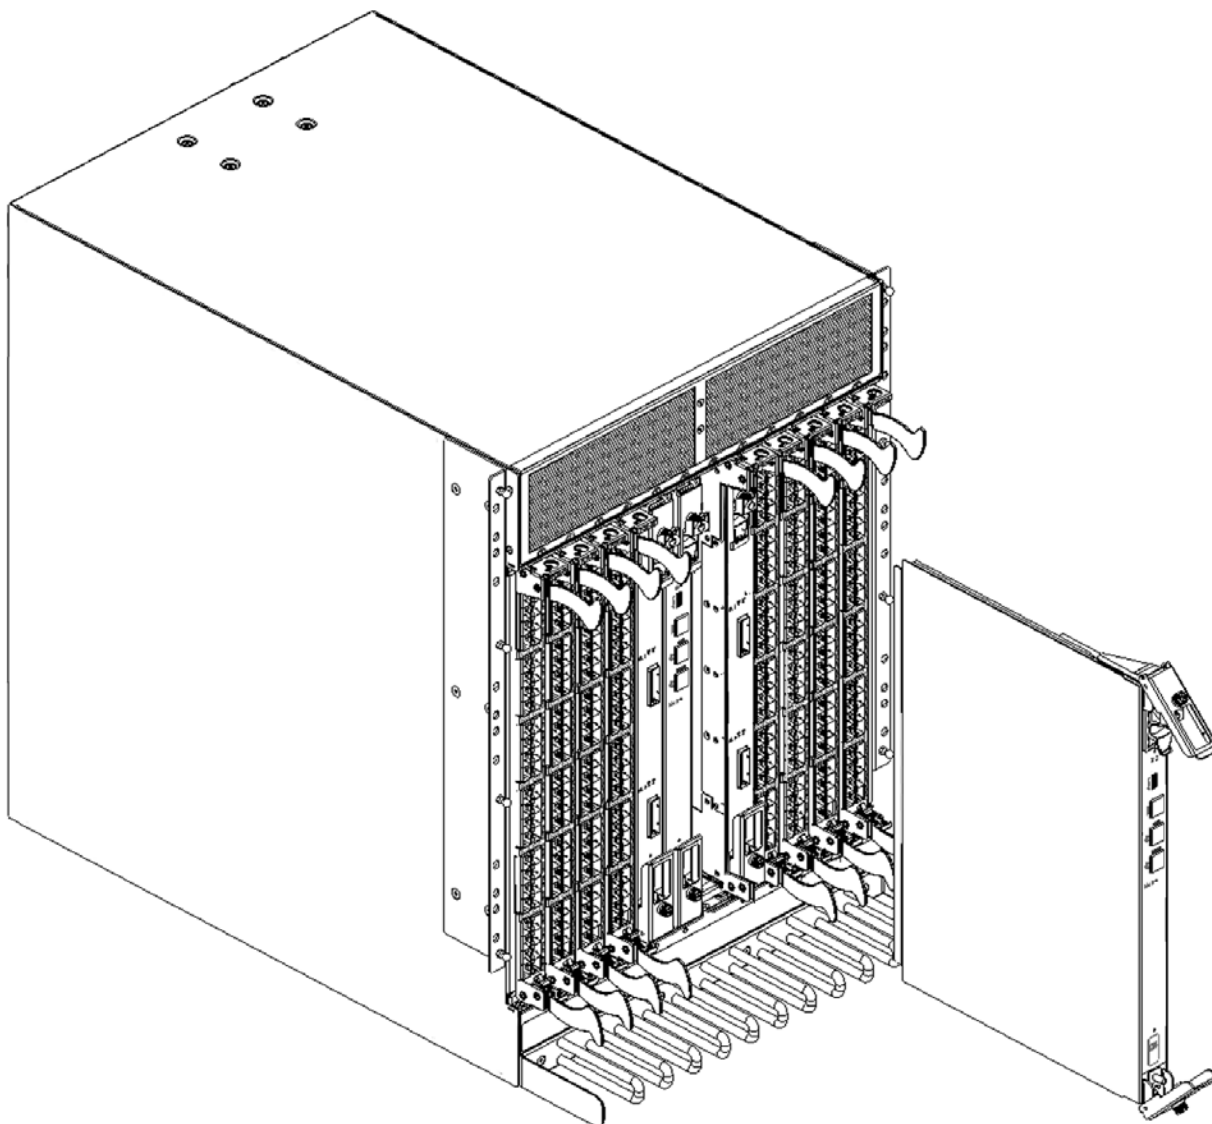

Figure 25. Removing the control processor (CP) blade
- 1) Turn the CP blade off and notify the SAN768B of a hot swap request by sliding the slider switch in the top ejector down to the off position (see Figure 25 on page 61).
4. Power off the blade by sliding the slider switch in the top ejector down to the off position (see Figure 25 on page 61).
7. Lever open both ejector handles simultaneously to approximately 45 degrees and pull the CP blade out of the chassis (see Figure 25 on page 61).